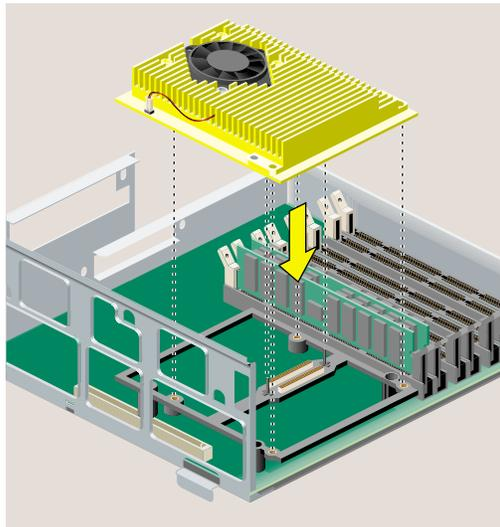

Figure 11 Securing the R12000A CPU Module
15. Install the replacement R12000A CPU module as shown in Figure 11.